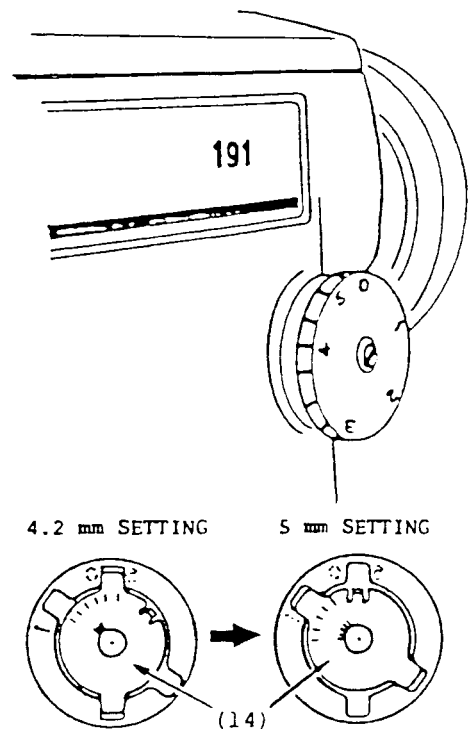

Fig. 11
Normally, the machine is adjusted to sew a maximum stitch length of 4.2 mm. This however, can be changed to 5 mm (5 s.p.i.) by relocating the feed regulating dial serration plate (14) in the recess on the reverse side of the feed regulating dial, as shown in Fig. 11.